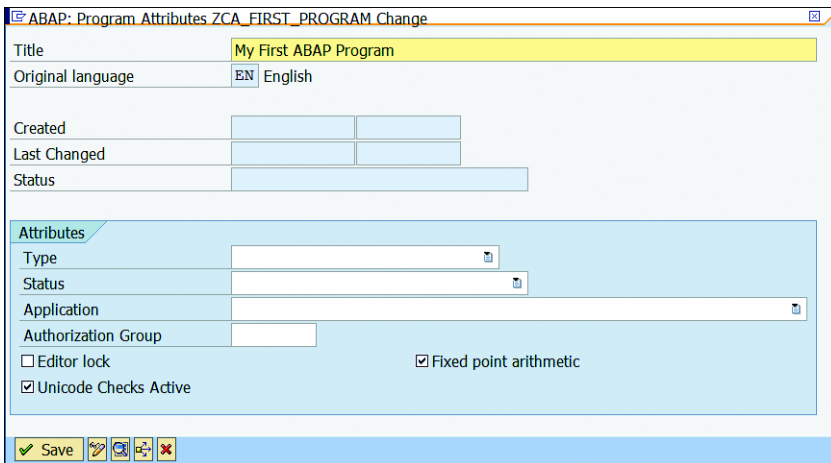

Figure 4.18 Program Attributes Screen
3. You'll see the `PROGRAM ATTRIBUTES` window (Figure 4.18) to maintain the attributes for your program. *Program attributes* allow you to set the runtime environment of the program.